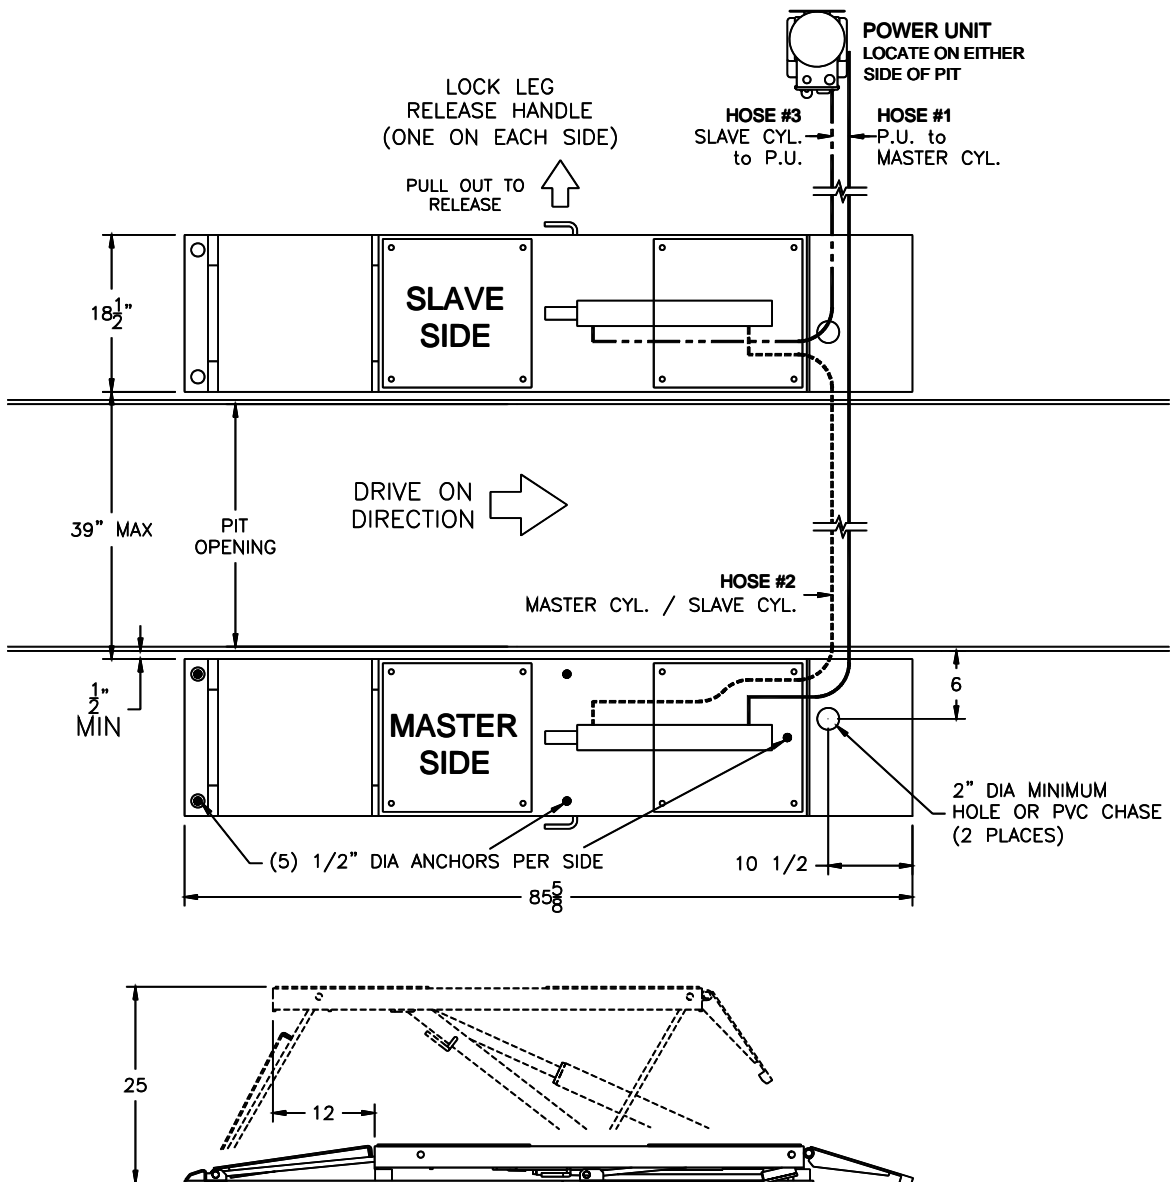

Fig 1 – General Specifications and Service Bay Layout
Be certain the floor is capable of handling the loaded lift, see Fig 1. Floor should be in generally good condition with no large cracks, spalling or deterioration.
- 1) Lay out the service bay according to the architect's plans or owner's instructions (**see Fig 1**). Be certain that the proper conditions exist, see page 3.
- 14) There are (5) holes provided in the base of both frames, **Fig 1**. The holes are sized for 1/2" anchor bolts. Use the holes as a template when drilling into floor.